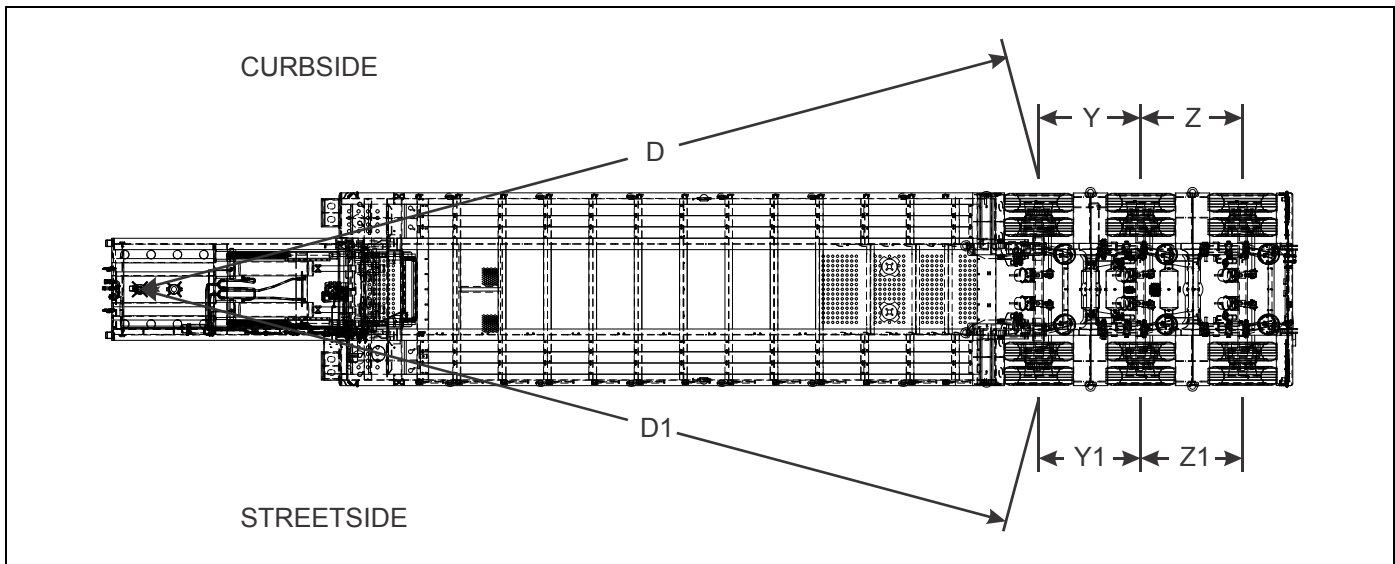

Figure 4-8: Checking Axle Alignment
4. Measure (D) from the plumb bob to the center point on one end of the axle. Record this measurement (**See Figure 4-8.**)
5. Measure (D1) to the other end of the axle in the same manner as in **step 4**. Record this measurement (**See Figure 4-8.**)